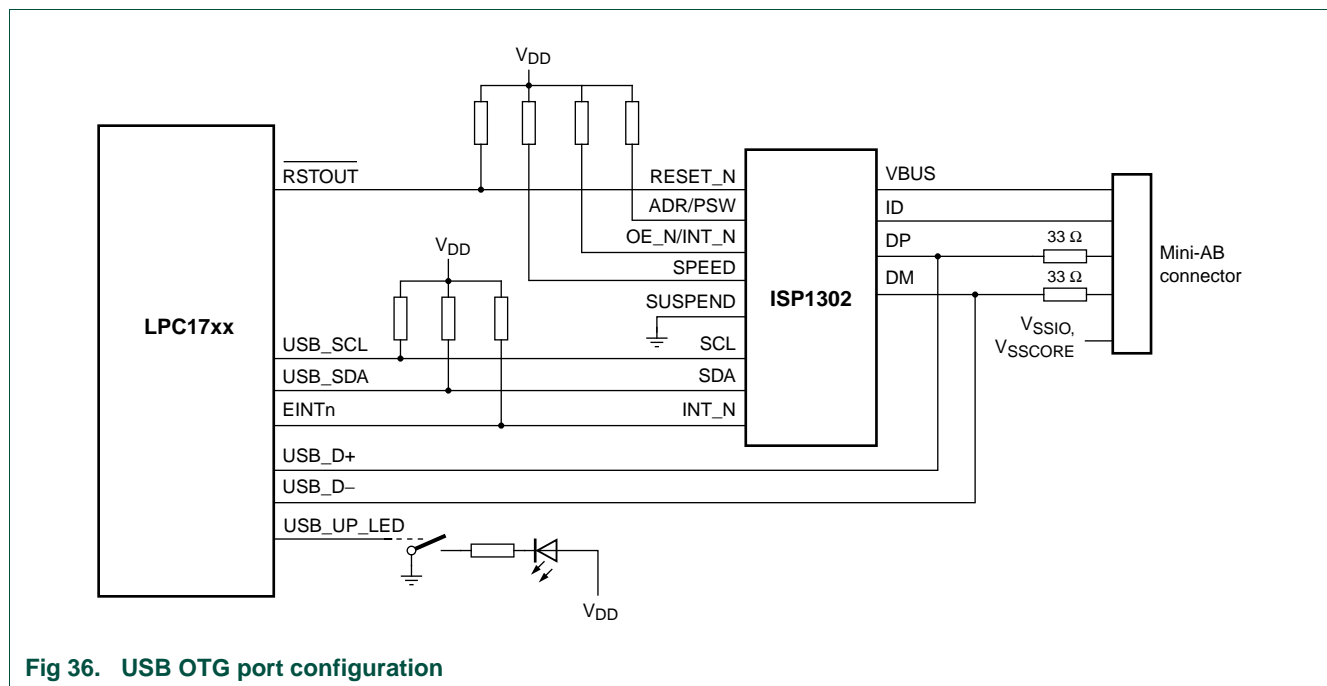

Fig 36. USB OTG port configuration
- Host mode (see Figure 36)
For OTG functionality an external OTG transceiver must be connected to the LPC176x/5x: Use the internal USB transceiver for USB signalling and use the external OTG transceiver for OTG functionality only (see Figure 36). This option uses the internal transceiver in VP/VM mode.